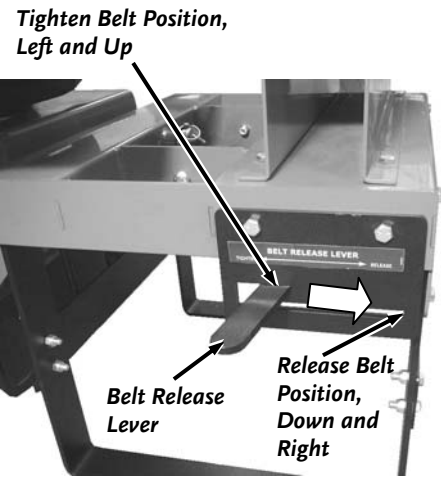

Figure 14
4. Make sure the Belt Release Lever is in the “Release” position (**Figure 14**).